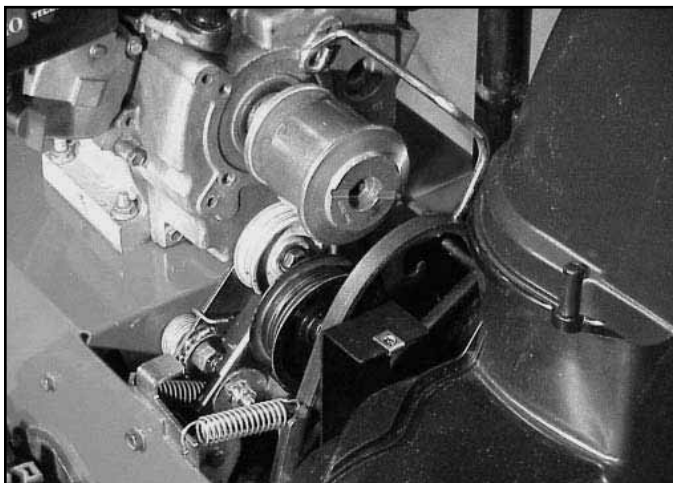

Fig 063
6. The auger belt can now be removed from the impeller pulley (Fig. 063).